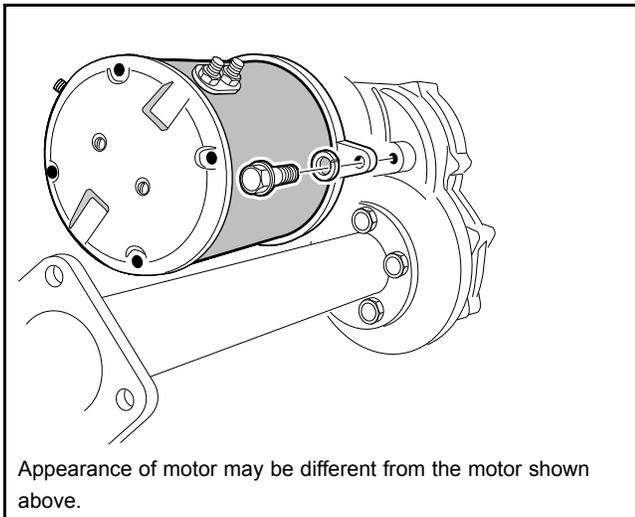

Figure 28-12 Motor Positioning Bolt
10. Remove the three motor mounting bolts (**Figure 28-11, Page 28-6**) and the motor positioning bolt (**Figure 28-12, Page 28-7**) mounting the motor to the transaxle. **See following CAUTION.**